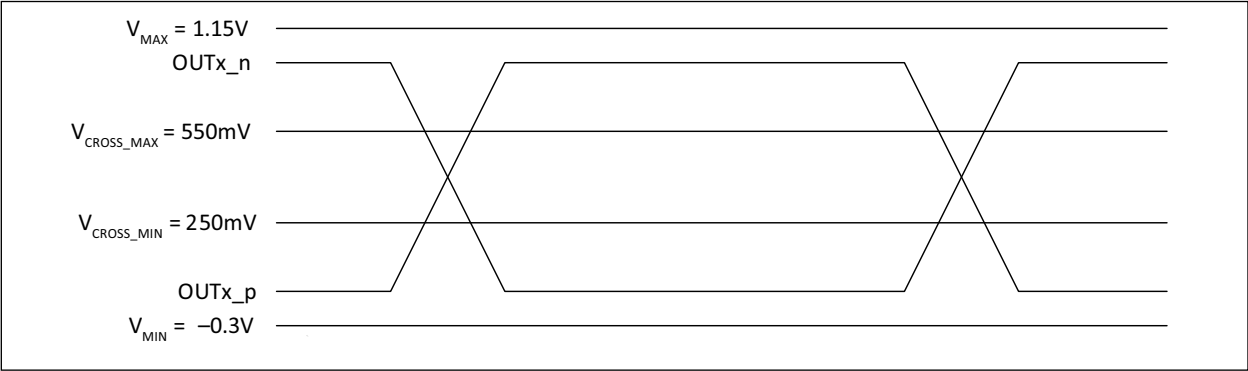

FIGURE 1-1: Single-Ended Measurement Points for Absolute Cross Point and Swing.
- 4:** Measured at crossing point where the instantaneous voltage value of the rising edge of $OUTx_p$ equals the falling edge of $OUTx_n$. See Figure 1-1.
- 5:** Refers to the total variation from the lowest crossing point to the highest, regardless of which edge is crossing. Refers to all crossing points for this measurement. See Figure 1-1.
- 8:** Defined as the maximum instantaneous voltage including overshoot. See Figure 1-1.
- 9:** Defined as the minimum instantaneous voltage including undershoot. See Figure 1-1.